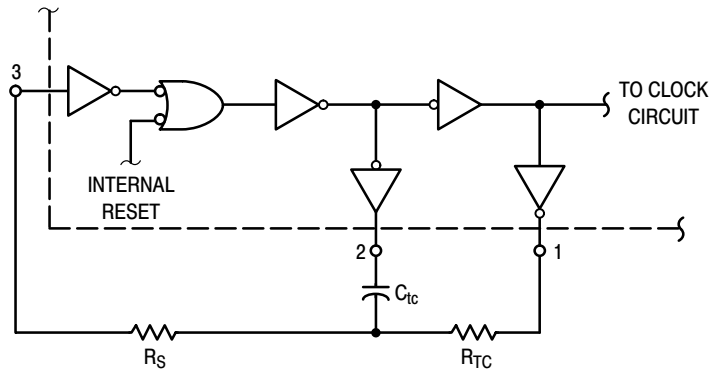

Figure 3. Oscillator Circuit Using RC Configuration
6. When using the on chip oscillator the total supply current (in μAdc) becomes:  $I_T = I_D + 2 C_{tc} V_{DD} f \times 10^{-3}$  where ID is in μA, Ctc is in pF, VDD in Volts DC, and f in kHz. (see Fig. 3) Dissipation during power-on with automatic reset enabled is typically 50 μA @ VDD = 10 Vdc.
The RC oscillator as shown in Figure 3 will oscillate with a frequency determined by the external RC network i.e.,